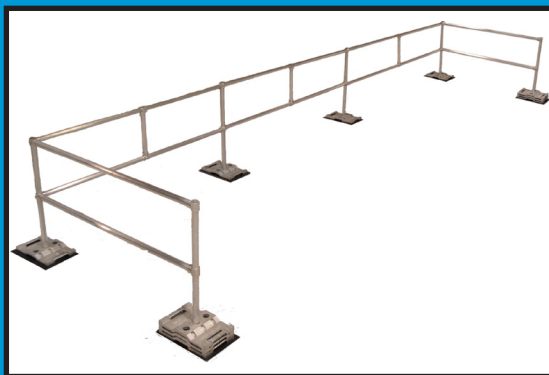

Figure 11: Complete RGC-KIT-27V
9.10 Once the system is complete (see figure 11), a second check of each set screw should be performed and once torqued, each set-screw should be marked with the blue crayon (or other marking system) to help facilitate inspection and provide indications in the event of any tampering. The warning sticker should be placed in a visible location on the top rail with the install date and reference number to assist with inspections.